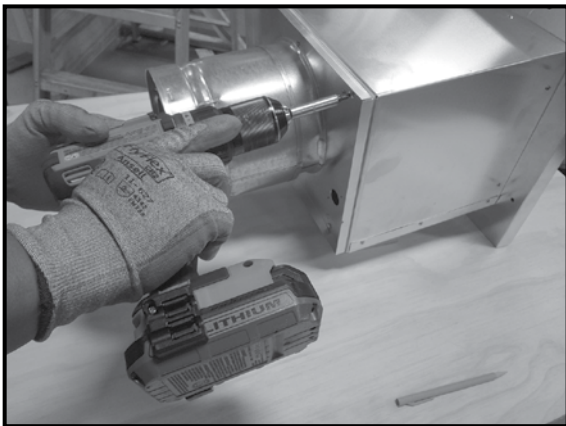

Figure 3.5
1. Remove the eight screws holding the back cover to the cap. See Figure 3.5.